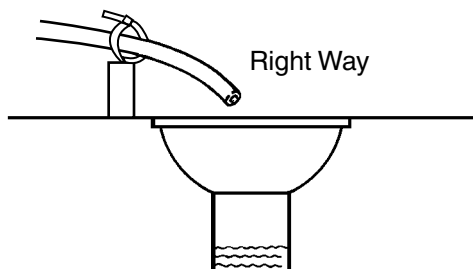

Figure 8 Drain Line Connection
**⚠ WARNING:** Never insert drain line directly into a drain, sewer line, or trap (Figure 8 Drain Line Connection). Always allow an air gap between the drain line and the wastewater to prevent the possibility of sewage being back-siphoned into the softener.